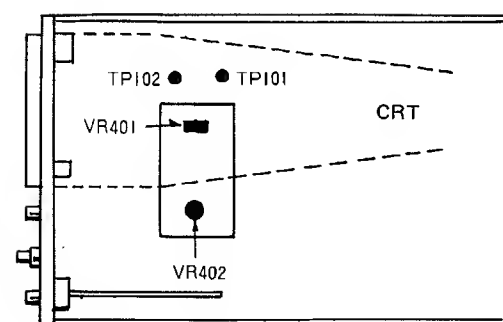

Fig. 40
2. Short the test terminals TP101 and TP102 on the lower printed circuit board. (see Fig. 40)
Variable DC BAL Adjustment(see Fig. 40):